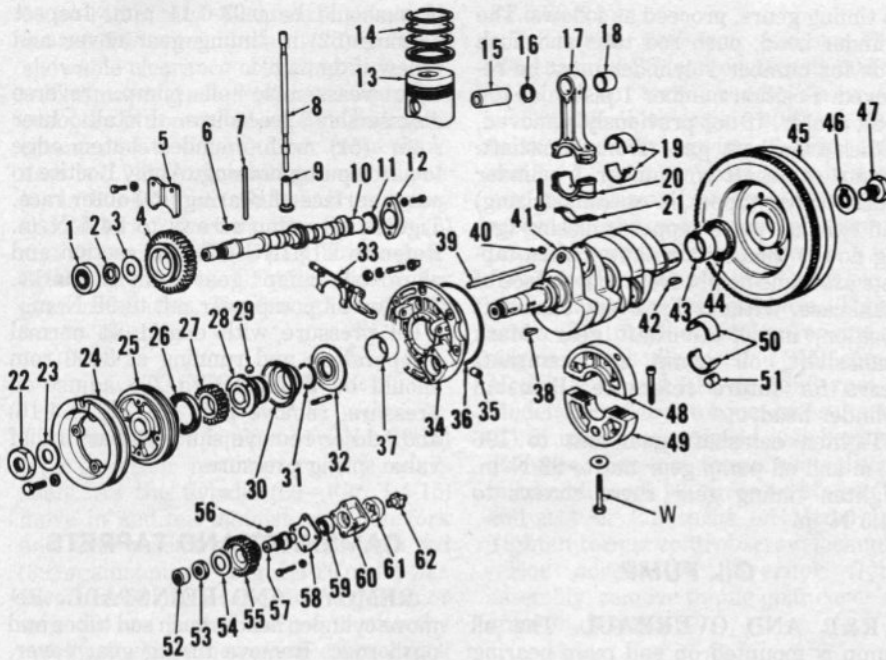
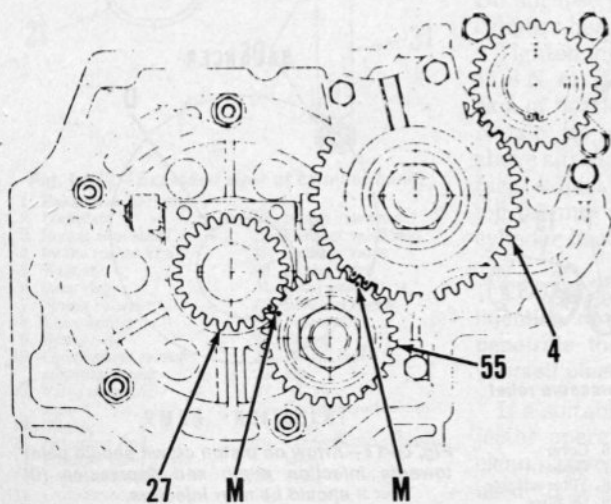
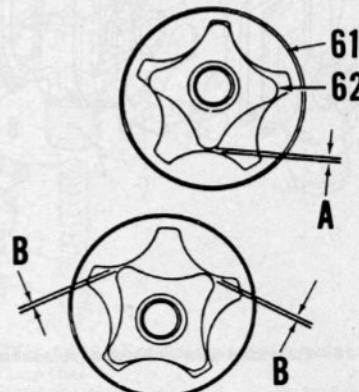
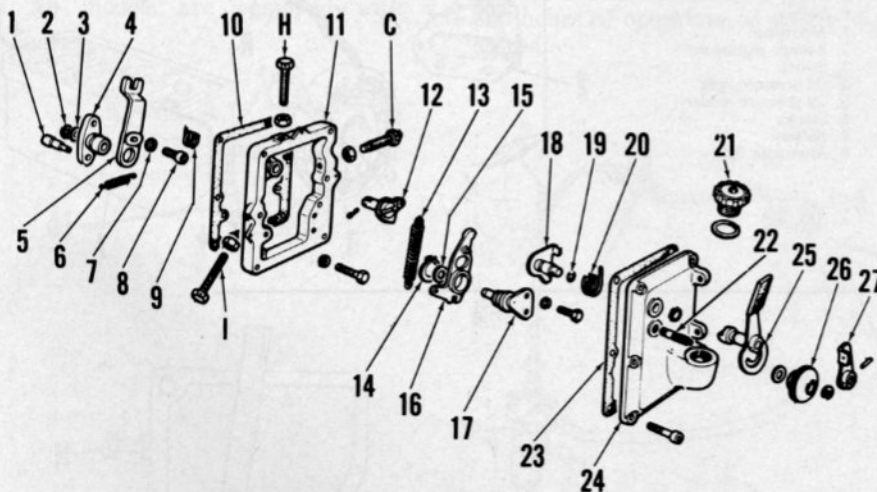

Fig. L4-15 — Exploded view of crankshaft, camshaft and oil pump assemblies.
Fig. L4-18—View showing location of timing marks (M) on camshaft gear (4), crankshaft gear (27) and oil pump gear (55).
Fig. L4-19—Refer to text for clearances (A&B) between oil pump outer rotor (61) and inner rotor (62).
Fig. L4-20—Exploded view of governor and throttle control linkage.
Use a suitable puller to remove gears. Note that retainer (5—Fig. L4-15) must be removed before pulling off camshaft gear (4). When installing camshaft gear, place gear on shaft so retainer groove is out. Align timing marks (M—Fig. L4-18) on models so equipped, when installing gears. If timing marks are not present
R&R AND OVERHAUL. The oil pump is mounted on end main bearing support (34—Fig. L4-15). To remove pump, remove timing gear cover and oil pump gear (55). Unscrew pump housing screws and disassemble pump.
Refer to Fig. L4-19 and measure clearance between inner and outer rotors (61 and 62). Clearance (A) should be 0.01-0.06 mm with a maximum allowable clearance of 0.10 mm, and clearance (B) should be 0.02-0.10 mm with a maximum allowable clearance of 0.20 mm. Width of inner and outer rotors should be 14.95-14.97 mm and difference in rotor widths must not be greater than 0.02 mm. Outer rotor outer diameter is 40.54-40.57 mm. Pump housing bore is 40.60-40.63 mm. Clearance between outer rotor and pump housing bore should be 0.03-0.09 mm with a maximum allowable clearance of 0.13 mm. With pump cover (60—Fig. L4-15) and bearing retainer (58) installed and retaining screws torqued, inner rotor end
REMOVE AND REINSTALL. Remove cylinder heads, push rod tubes and push rods. Remove timing gear cover, gear retainer (5—Fig. L4-15) and camshaft gear (4). Remove fuel injection pump. Using suitable tools, pull valve tappets away from camshaft and secure tappets so they will not fall into crankcase when camshaft is removed. If tappets fall into crankcase, then crankshaft must be removed so tappets can be reinstalled. Withdraw camshaft from crankcase. Remove oil pan for access to tappets.
All models are equipped with a flyball type governor mounted on the crankshaft. As the flyballs (29-Fig. L4-15) move in and out against cup (30), fork and lever assembly (33) forces push rod (39) against pin (1-Fig. L4-20 or L4-21). Pivot flange (4), lever (16) and governor arm (5) are forced to rotate thereby moving fuel injection pump control rack pin (P). Throttle lever (25) operates through pivot arm (12) and governor spring (13) to control engine speed.
To adjust governor, remove cover (24-Fig. L4-20) and on Models 904 and 914, back out torque control screw (C) 5 or 6 turns. With engine stopped, check to be sure start spring (6-Fig. L4-20 and L4-21) has removed slack in governor mechanism. Loosen governor arm screw (8) and move governor arm (5) towards torque control screw (C) until fuel injection pump control rack pin (P) is in maximum fuel position. Tighten screw (8). Install control cover and run engine at high idle speed of 3150 rpm for Models 904 and 914 or 2350 rpm for Model L20. Turn torque control screw (C) until engine speed just begins to decrease, then turn torque control screw in an additional 1½ turns on Models 904 and 914 or 2.2 turns on Model L20. Tighten torque control screw locknut.
R&R AND OVERHAUL. The crankshaft rides in sleeve bearings in the crankcase bulkhead and end bearing support (34-Fig. L4-15), and in insert bearings in center support halves (48 and 49).
Crankshaft end play should be 0.15-0.25 mm and is not adjustable. End support (34-Fig. L4-15) width measured at (B) should be 33.90-33.95 mm. Width of gear end main bearing journal measured from shoulder to thrust face as shown at (C-Fig. L4-23) should be 34.10-34.15 mm. A worn end support or crankshaft will cause excessive end play.